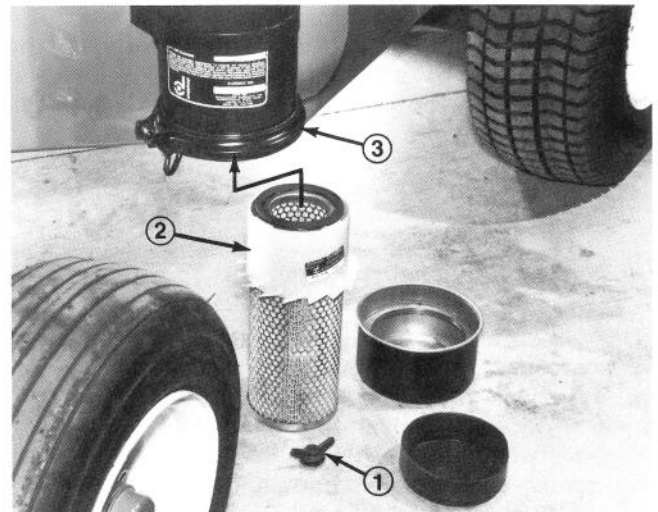

Figure 43
2. Remove wing nut w/gasket and slide filter element out of air cleaner body (Fig. 43).